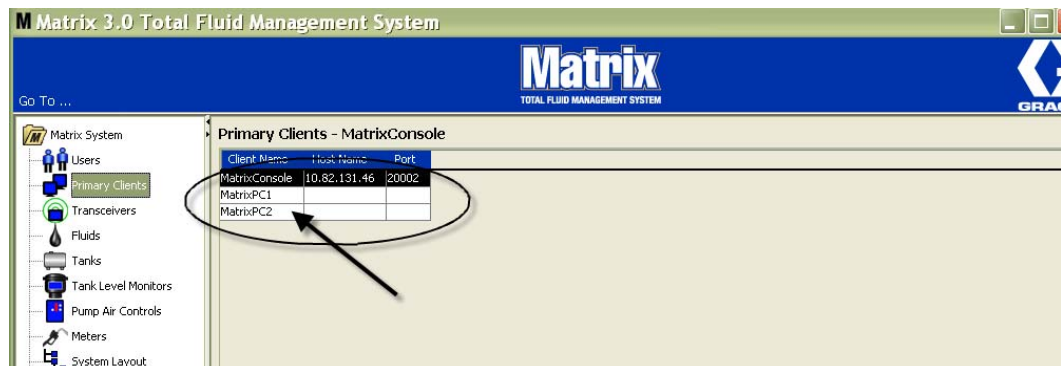

FIG. 93
- The new Primary Client is added to the bottom of the list on the Primary Clients screen (FIG. 93). Note that after entering a new Primary Client name, the name appears with its host name and port fields blank. These fields will be populated automatically the next time the Primary Client connects with the Matrix Service Engine.